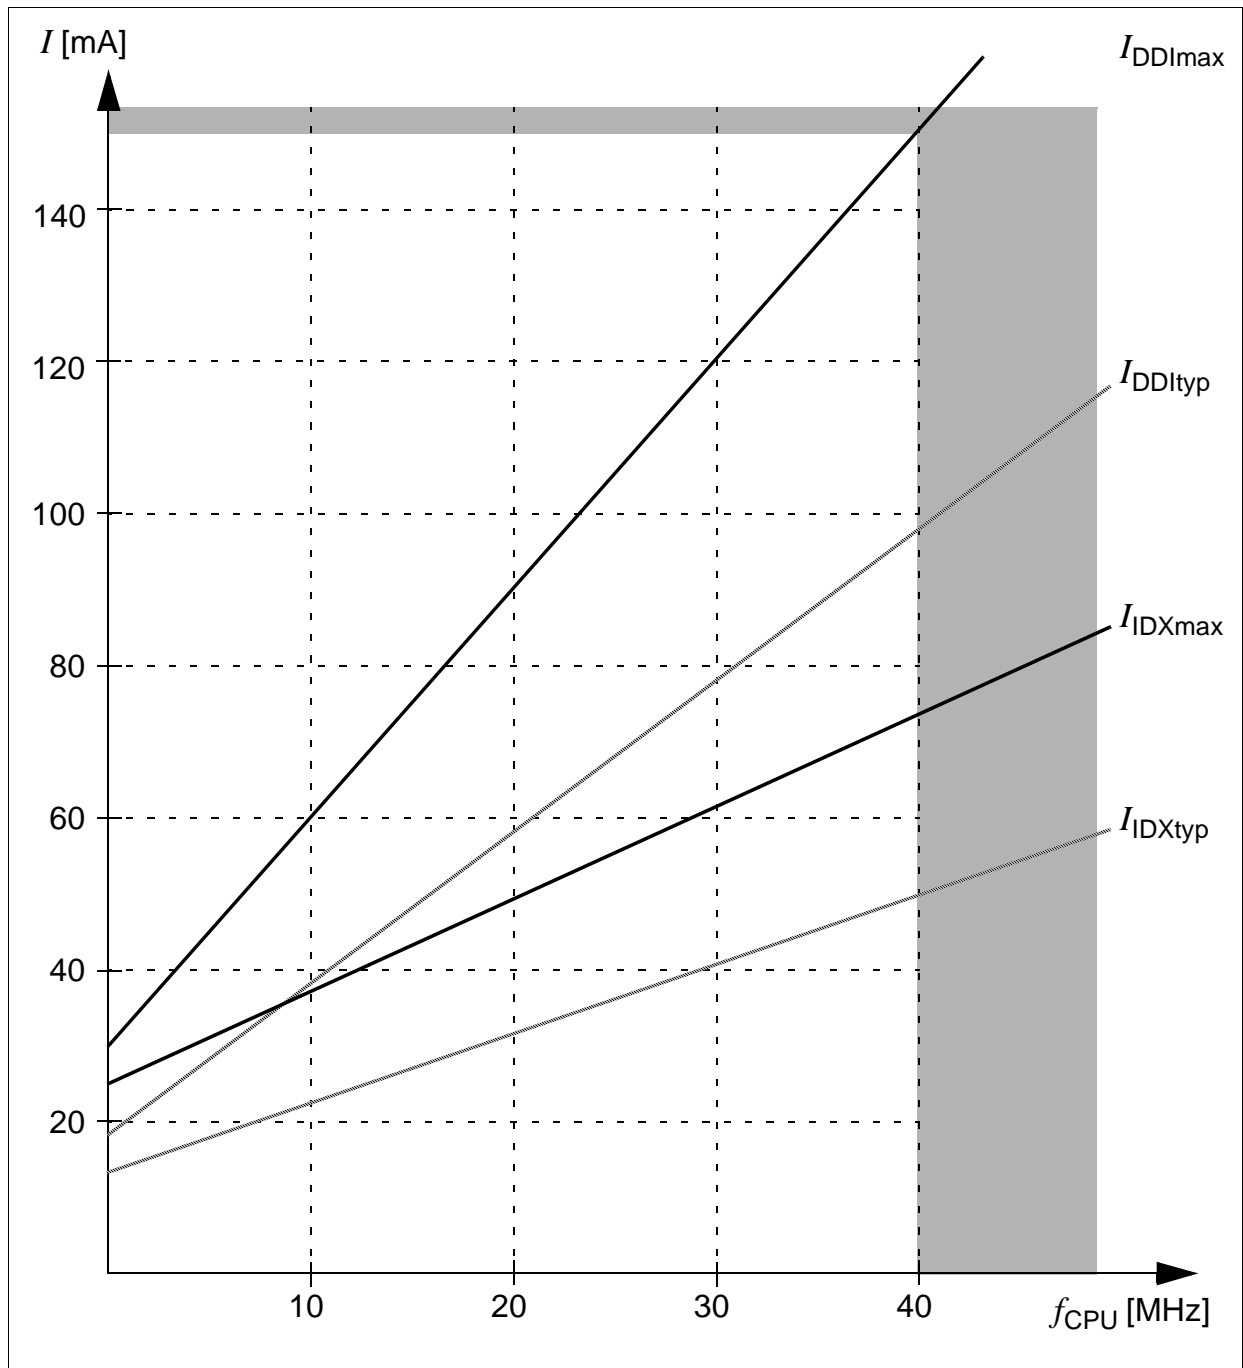

Figure 10 Supply/Idle Current as a Function of Operating Frequency
- ²⁾ The supply current is a function of the operating frequency. This dependency is illustrated in Figure 10. These parameters are tested at V_{DDImax} and maximum CPU clock frequency with all outputs disconnected and all inputs at V_{IL} or V_{IH} . The V_{DDP} pins only draw leakage currents if no output is toggling. Otherwise, the respective charging current must be delivered.